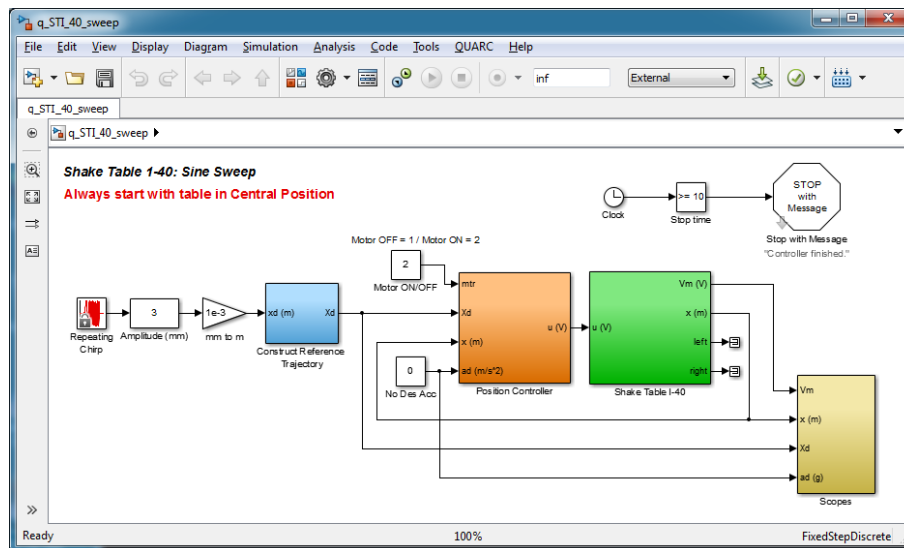

Figure 3.5: Simulink model used to command a sine sweep to the Shake Table I-40 using QUARC.
The sine sweep, also known as a chirp signal, is a sine wave with a fixed amplitude that increases in frequency as time progresses. In this experiment, the stage of the Shake Table I-40 tracks a sine sweep that increases from 1 to 5 Hz in 8 seconds. This is done using Simulink diagram shown in Figure 3.5, using QUARC®. By default the sine amplitude is 3 mm. The initial and final frequency of the sweep along with the amplitude can all be changed in the Simulink diagram. Typically the sine sweep is used to find the frequency response of a structure that is mounted on the table stage.
- Open the q\_STI\_40\_sweep.mdl Simulink model, shown in Figure 3.5. For more information on configuring q\_STI\_40\_sweep, see Section 5.5.